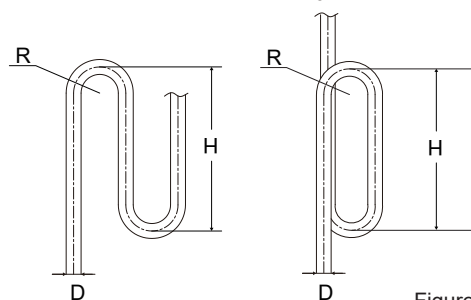

Figure 4.8
- When the outdoor unit is above the indoor unit, and the level difference exceeds 20 m, it is recommended that an oil return bend be set up at every 10 m interval on the gas pipe of the main piping. The recommended specifications of the oil return bend are shown in Figure 4.8.
- Requirement 3:** The largest level difference between indoor unit and outdoor unit should not exceed 110m (if the outdoor unit is above) or 110m (if the outdoor unit is below). Additionally: (i) If the outdoor unit is above and the level difference is greater than 20m, it is recommended that an oil return bend with dimensions as specified in Figure 4.8 be set every 10m in the gas pipe of the main pipe; and (ii) if the level difference is more than 40m (outdoor unit is below) or 50m (outdoor unit is above), the size of the main pipe (L1) should be increased as Table 4.7.